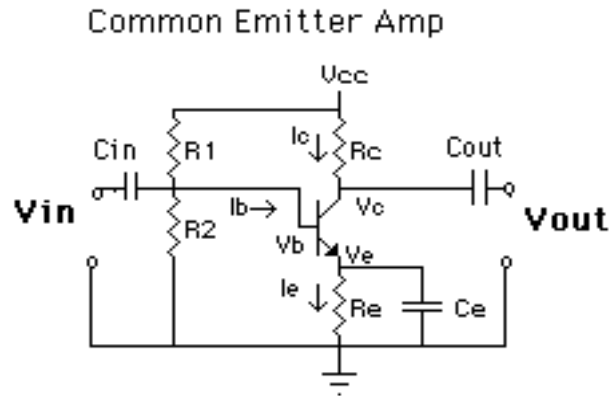

Fig. 1
A general purpose design for the CE amp is given in Fig. 1.  $R_1$  and  $R_2$  are bias resistors and are used to keep the transistor “turned on” for DC voltages ( $V_{cc}$ ).  $R_C$  and  $R_E$  determine the gain of the amp and  $R_E$  plays a role in determining the input impedance of the amp.  $C_E$  provides a path to ground for AC signals, while  $C_{in}$  and  $C_{out}$  isolate the input and output of the amp from the DC voltages that are present on the transistor.
3) We now need to decide what the maximum collect current ( $I_C$ ) we will allow. From the spec sheet 4 mA looks reasonable. Applying Kirchhoff's law to the circuit in Fig. 1 yields the following load line ( $I_C$  vs.  $V_{CE}$ ) equation: